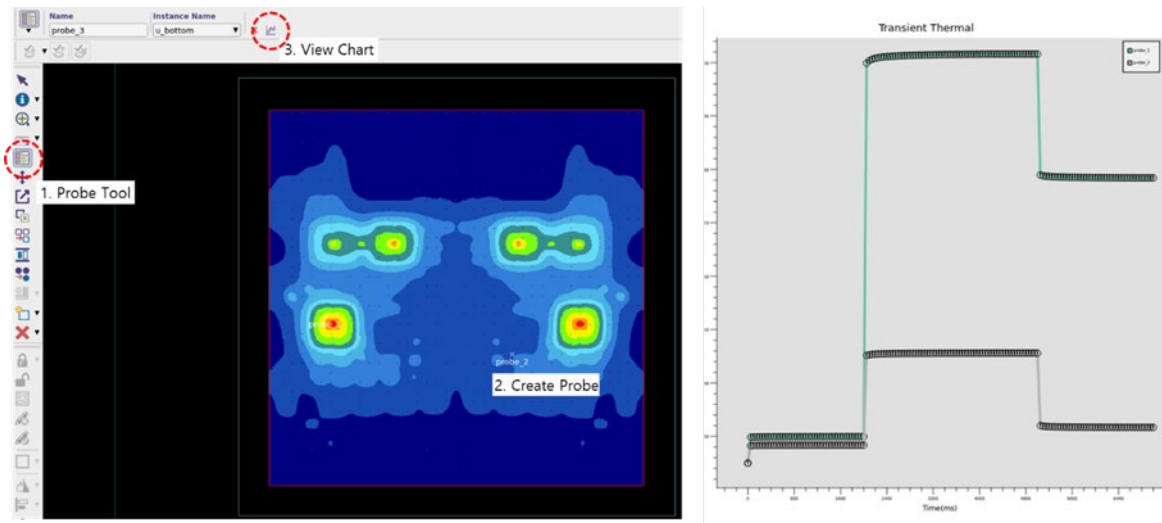
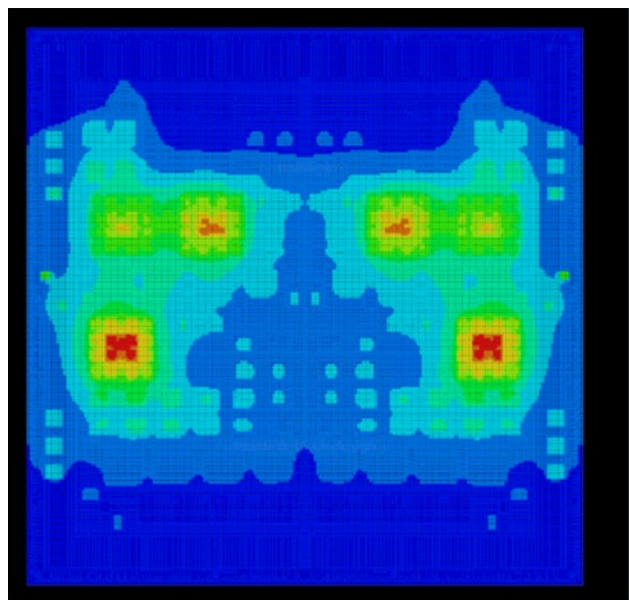

Figure 5-3. Transient Early Thermal Analysis Results Using RHSC-ET
Figure 5-4. Early Thermal Analysis Results Using Synopsys Native Thermal Engine
**Figure 5-3** and **Figure 5-4** show thermal analysis results using RHSC-ET and Synopsys Native thermal engine, respectively.